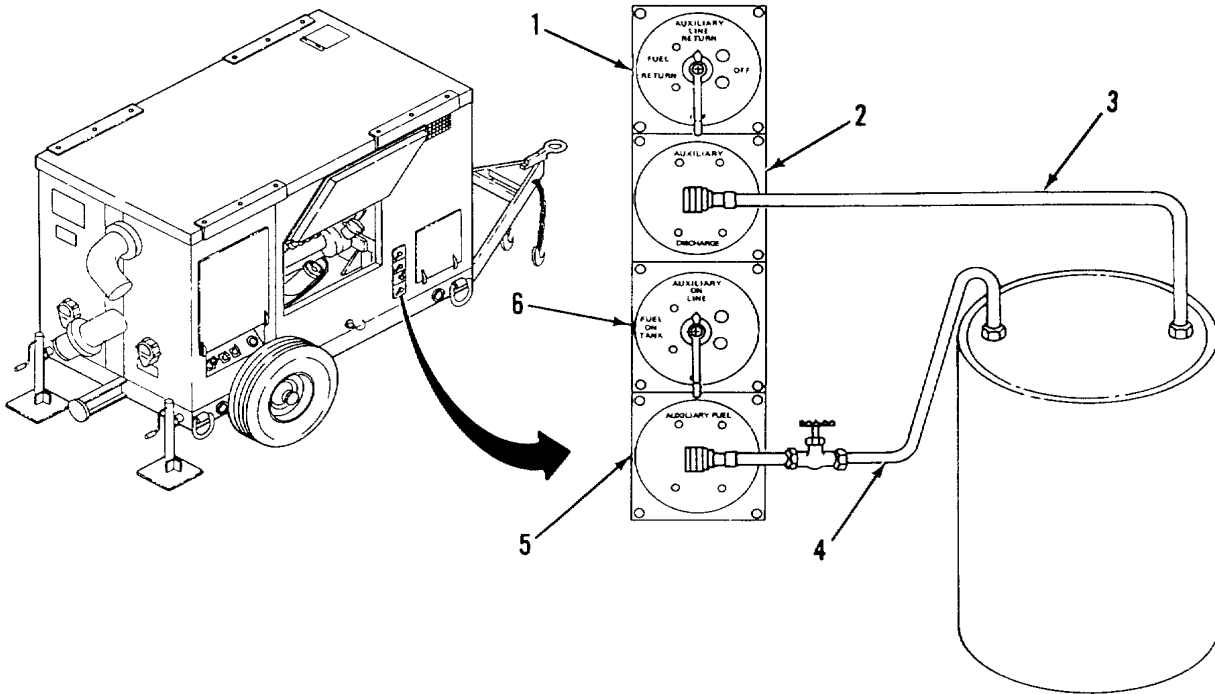
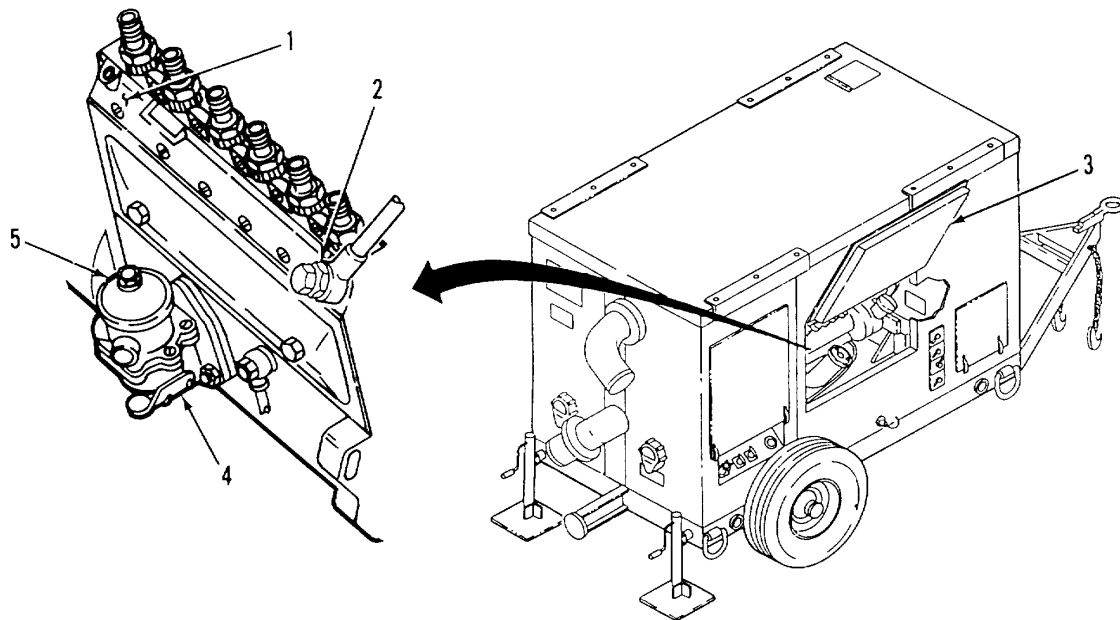

Figure 2-3. Pumping Assembly Fuel Selector Valves
Figure 2-4. Priming Fuel System
- h. If engine is to be operated from external fuel supply, perform the following (Figure 2-3):
- (1) Connect fuel supply hose (4) from auxiliary fuel tank to AUXILIARY FUEL INLET connector (5)
- (2) Connect fuel return hose (3) from auxiliary fuel tank to AUXILIARY FUEL RETURN connector (2).
- (3) Move fuel selector valve (6) to AUXILIARY ON LINE position.
- (4) Move fuel return valve (1) to AUXILIARY LINE RETURN position.
- i. If engine is to be operated from trailer tank on pumping assembly, perform the following (Figure 2-3)'
- (1) Move fuel selector valve (6) to FUEL ON TANK position.
- (2) Move fuel return valve (1) to FUEL RETURN position.
- j. Prime fuel system (Figure 2-4).